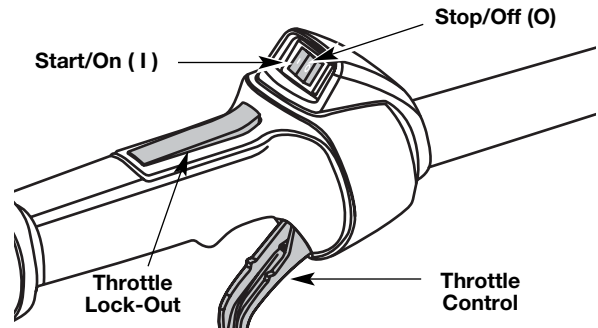

Fig. 20
3. Make sure the On/Off Stop Control in the ON (I) position (Fig. 20).